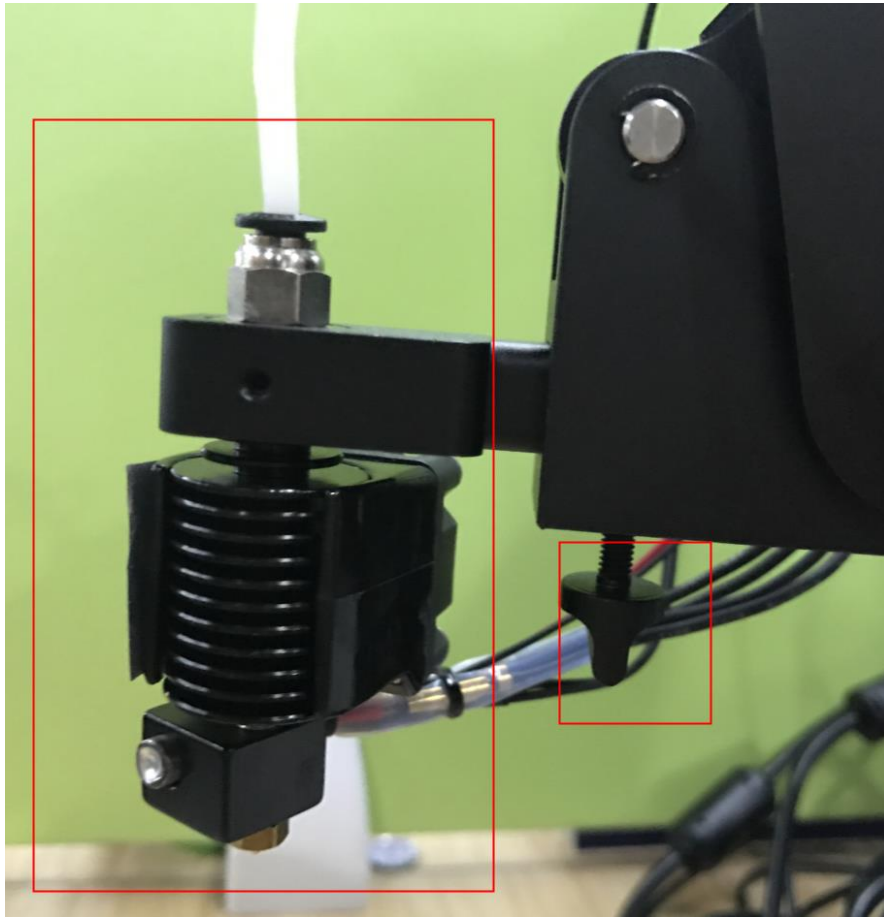

Figure 5.122 Fix hot end
- Step 4** Fix the hot end on the Dobot Magician with clamp fixing screw, as shown in Figure 5.122.